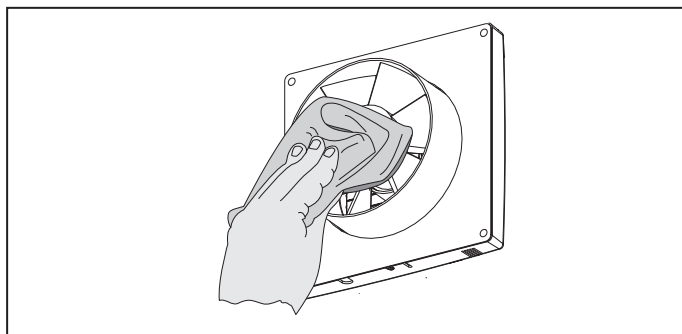

Fig. 22. Impeller blade cleaning
- Clean the impeller blades, fig. 22. Remove dust with a soft brush, cloth or compressed air. Cleaning with water, abrasive detergents, solvents, sharp objects is not allowed. Clean the impeller blades at least once a year.